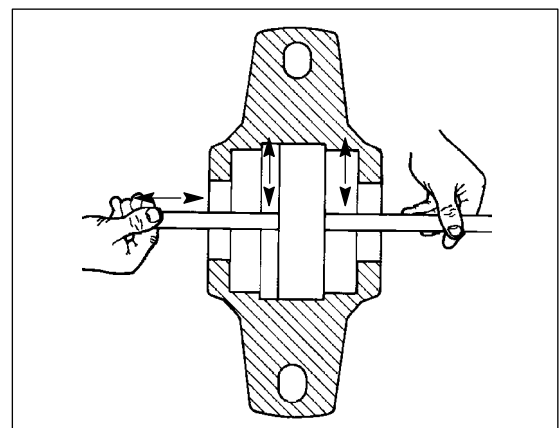

Fig. 8c. Measuring the clearance
2. Remove the fastening bolts M10 (7) and the upper bearing housings (6).
5. Bend the claw of the securing ring (3) out from the notch on the axle nut and open the axle nut.
6. Remove the spacer ring (3) if the bearing is at the feeder side.
7. Measure the radial clearance on top of the bearing between the rollers and outer ring with a feeler gauge. The clearance should be 0.02–0.03 mm (0,008-0,012"). Measure the clearance by pushing the feeler gauge between the rollers (point A, Fig. 8b.) through the bearing and then moving the gauge back and forth between the rollers and outer ring - see Fig. 8c. Do not force the feeler gauge through the clearance.
8. If the clearance exceeds 0.03 mm, bend the claw of the securing ring (2) out from the notch on the axle nut (1).
12. Install the upper bearing housing and tighten the bolts (6) to 50 Nm (36 7/8 lbf).